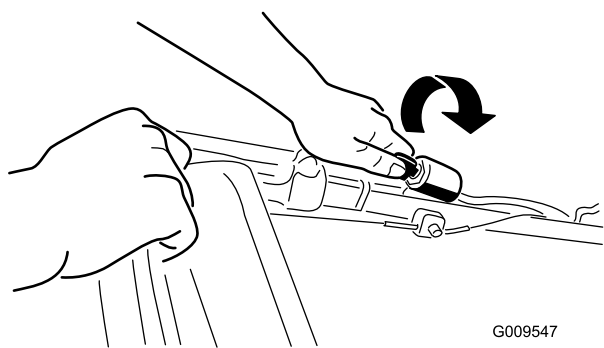
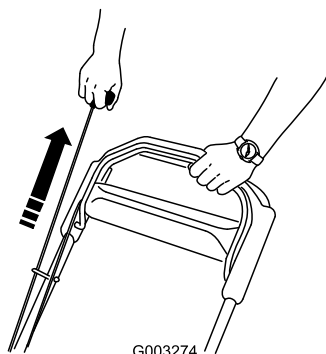

Figure 14
Figure 15
2. Turn the ignition key (Figure 14) or pull the recoil-start handle (Figure 15).
**Note:** When you pull the recoil-start handle, pull it lightly until you feel resistance, then pull it sharply (Figure 15). Allow the rope to return to the handle slowly.